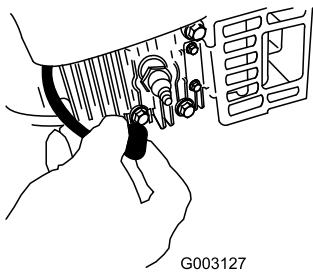

Figure 27
- Disconnect the spark plug wire from the spark plug (Figure 27) before performing any maintenance procedure.